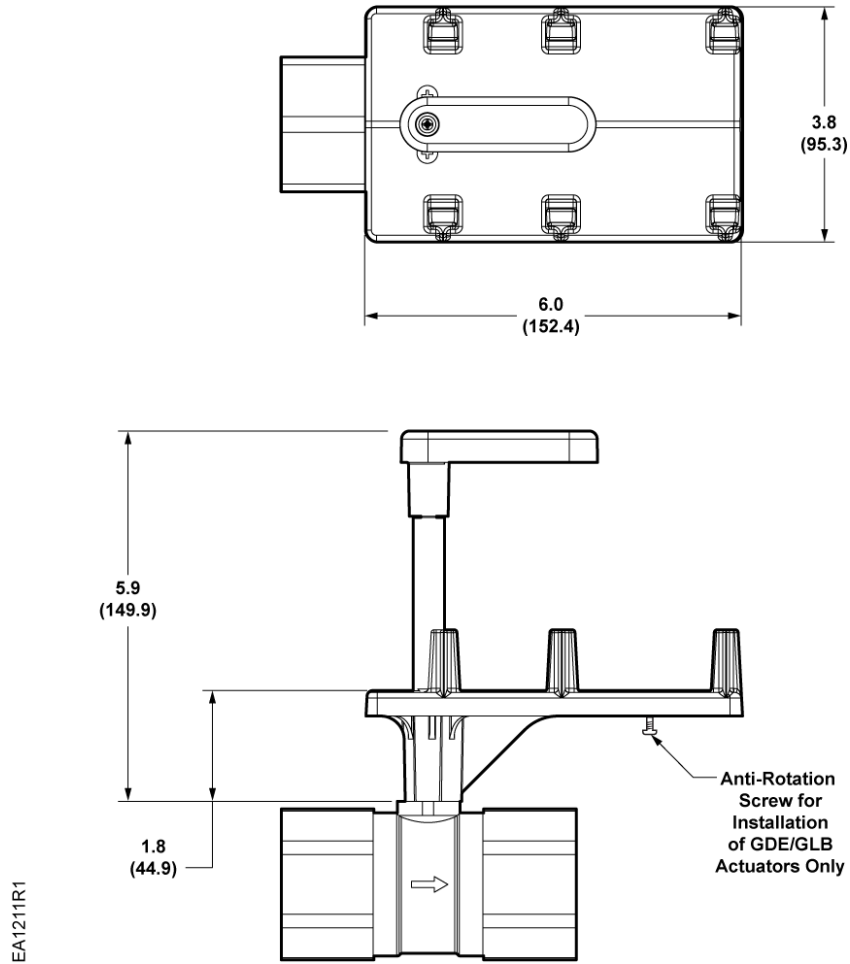

Figure 6. Ball Valve Bracket in Inches (Millimeters).
6. For GDE/GLB actuators, an anti-rotation screw must be fully driven in. See Figure 6 and Figure 7.
**NOTE:** The GQD actuator will rest on the lowest step. The GMA actuator will rest on the second lowest step of the bracket. See Figure 6.